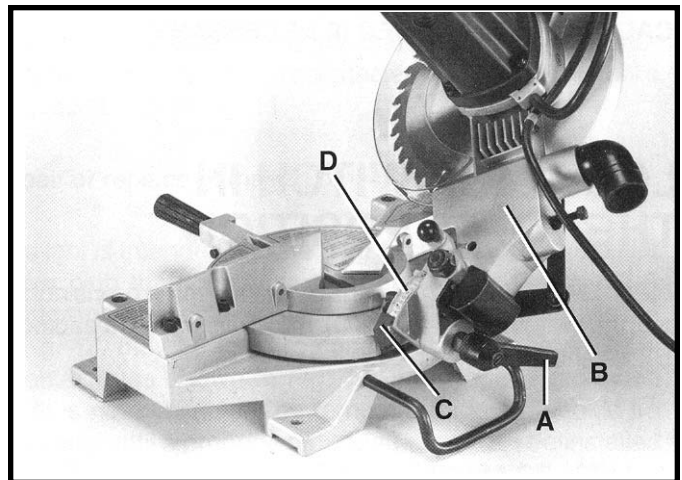

Fig. 17
The cuttinghead of your compound miter box can be tilted to cut any bevel angle from a 90 degree straight cut off to a 45 degree left bevel angle by loosening bevel lock handle (A) Fig. 17, tilting cutting arm (B) to the desired angle and tightening lock handle (A). NOTE: Lock handle (A) is spring loaded and can be repositioned by pulling out on the handle and repositioning it on the nut located underneath the hub of the handle. Positive stops are provided to rapidly position the saw blade at 90 and 45 degrees to the table. Refer to the section of this manual titled "ADJUSTING 90 AND 45 DEGREE BEVEL STOPS." The bevel angle of the cutting arm is determined by the position of the pointer (C) Fig. 17, on the scale (D).